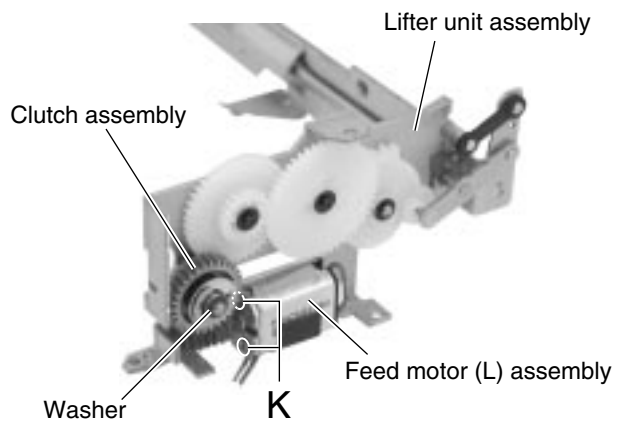

Fig.11
**■ Removing the feed motor (L) (See Fig.11)**